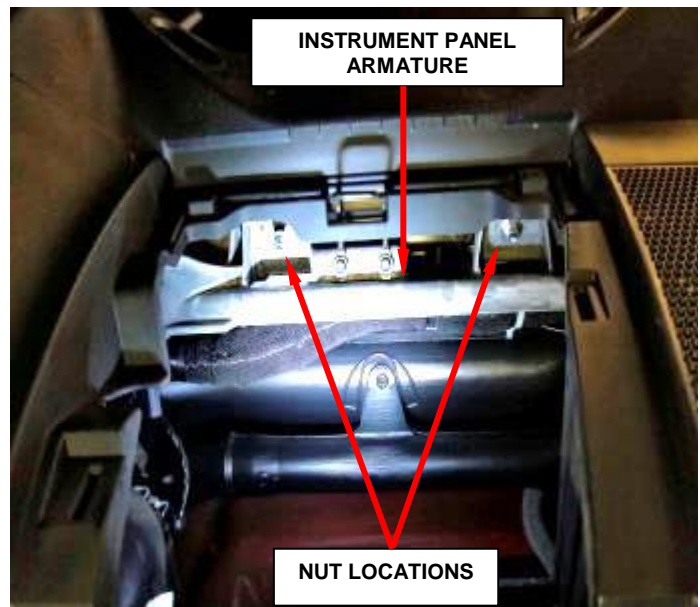

Figure 112 – PAB Lower Nuts
27. Reach up into the instrument panel glove box opening to access and remove and save the two nuts that secure the PAB lower studs to the instrument panel armature on each side of the glove box latch striker (Figure 112).